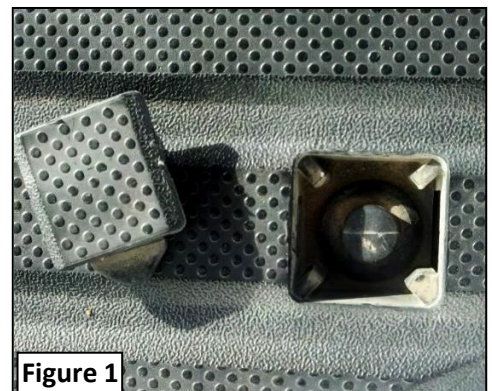

Figure 1
- Use a flathead screw driver to pop up the small squares on top of the bumper, revealing the plastic snap pins inside. See **Figure 1**.